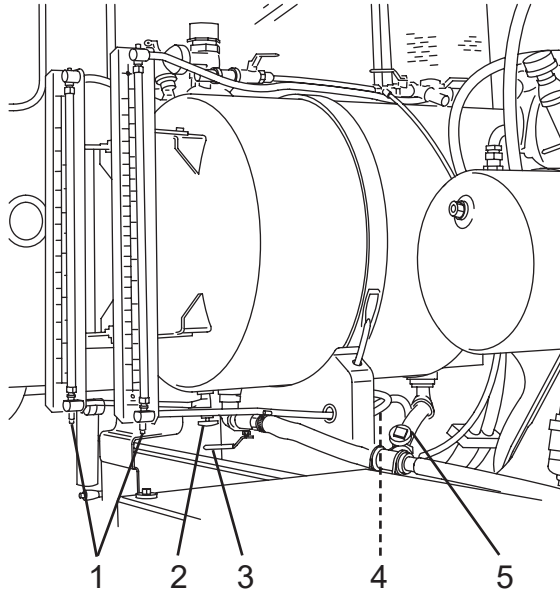

Figure 84
2. Remove the water tank drain plug(s), or open the main tank (Figure 84, Item 5) and chemical tank (if equipped) drain valves (Figure 84, Item 3).
3. Open the main tank (Figure 84, Item 4) and chemical (if equipped) sight glass isolator valves
(Figure 84, Item 2).
4. Open the sight glass drain valves (Figure 84, Item 1).